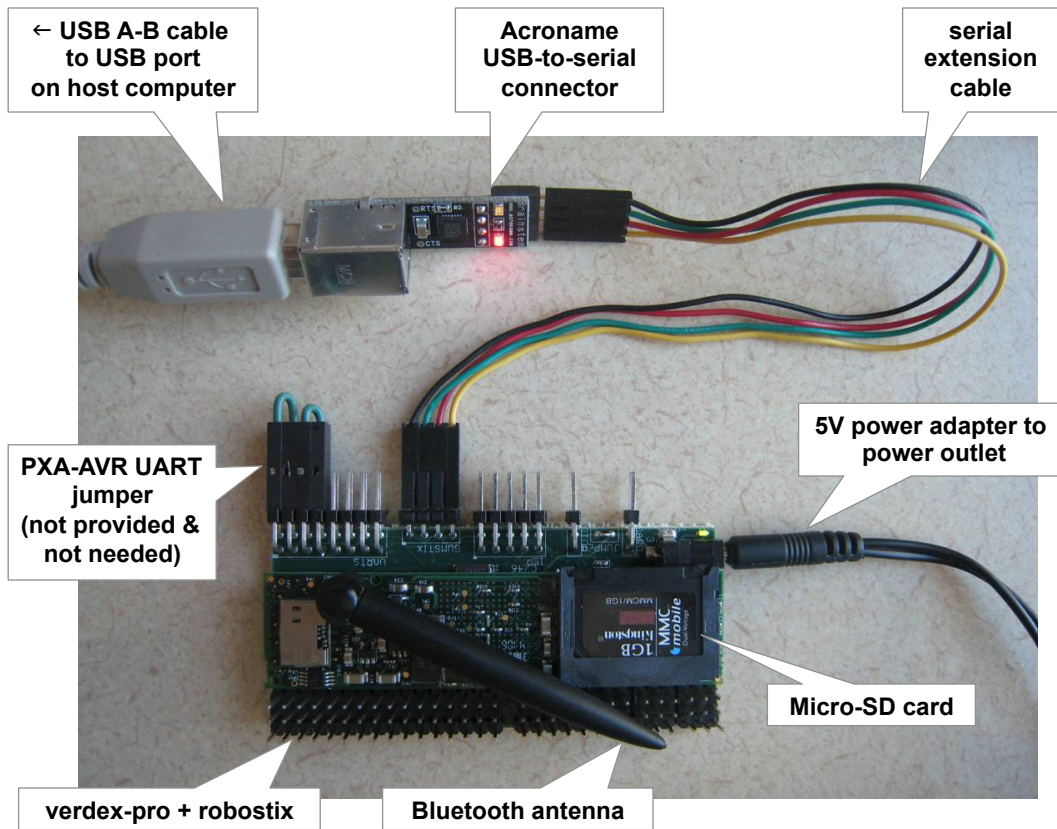

Figure 1: Hardware kit components connected together.
The heart of the 18-349 hardware kit consists of the verdex-pro motherboard and the robostix expansion board (see Figure 1). The verdex-pro motherboard is the smaller of the two boards and contains an Intel PXA270 processor(now owned by Marvel), 16 MB of onboard flash memory, a microSD card slot, and a Bluetooth module. The robostix board is the larger of the two and contains an Atmel ATmega128 microcontroller with headers for nearly every I/O pin, as well as additional headers for some of the gumstix (PXA) I/O pins.
3. Ignore the PXA–AVR UART jumper shown in Figure 1. This is not provided in your hardware kit, and you will not need the jumper for the labs (the jumper is shown purely for the sake of completeness because it might be required for interaction between the verdex-pro and the robostix for hobby projects and other extensions).